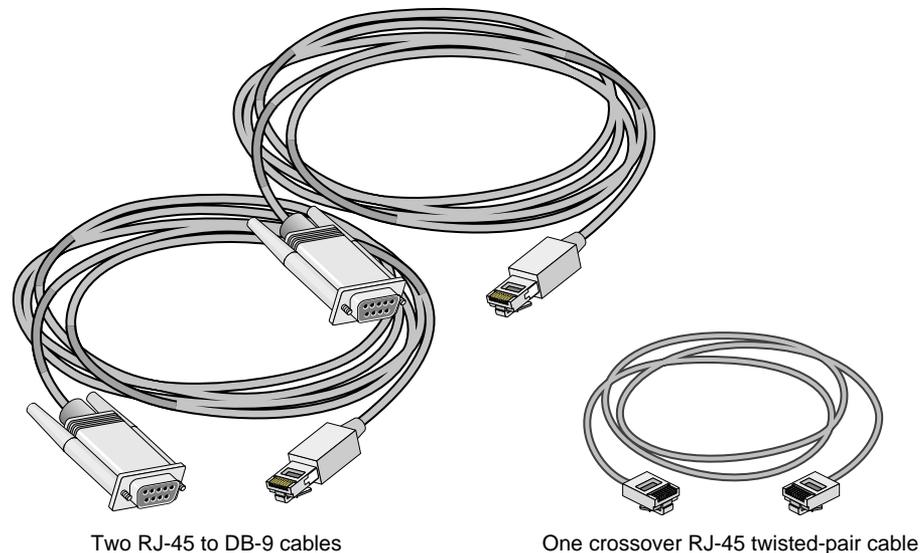

Figure 2-17 Items Needed to Connect SGIconsole to an SGI 2100 or SGI 2200 Server
3. Make sure that you have the following items (see Figure 2-17):